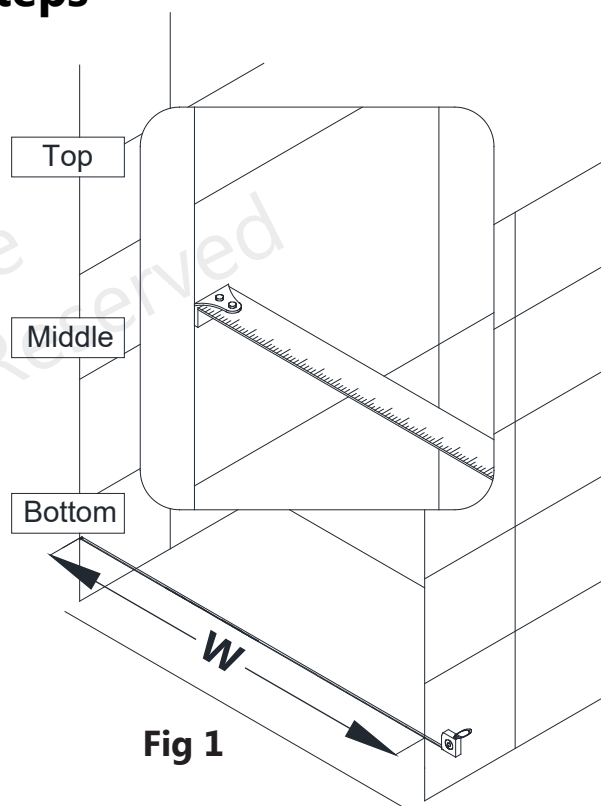

Fig 1
1. Measure the distance between the two finished walls at the top (at model height: 58" or 72"), middle and bottom. The wall profiles will adjust for out-of-plumb conditions, so **use the smallest measurement as the "finished opening" (W)** dimension to determine the finished cut length in Step #2. **(Fig 1)**